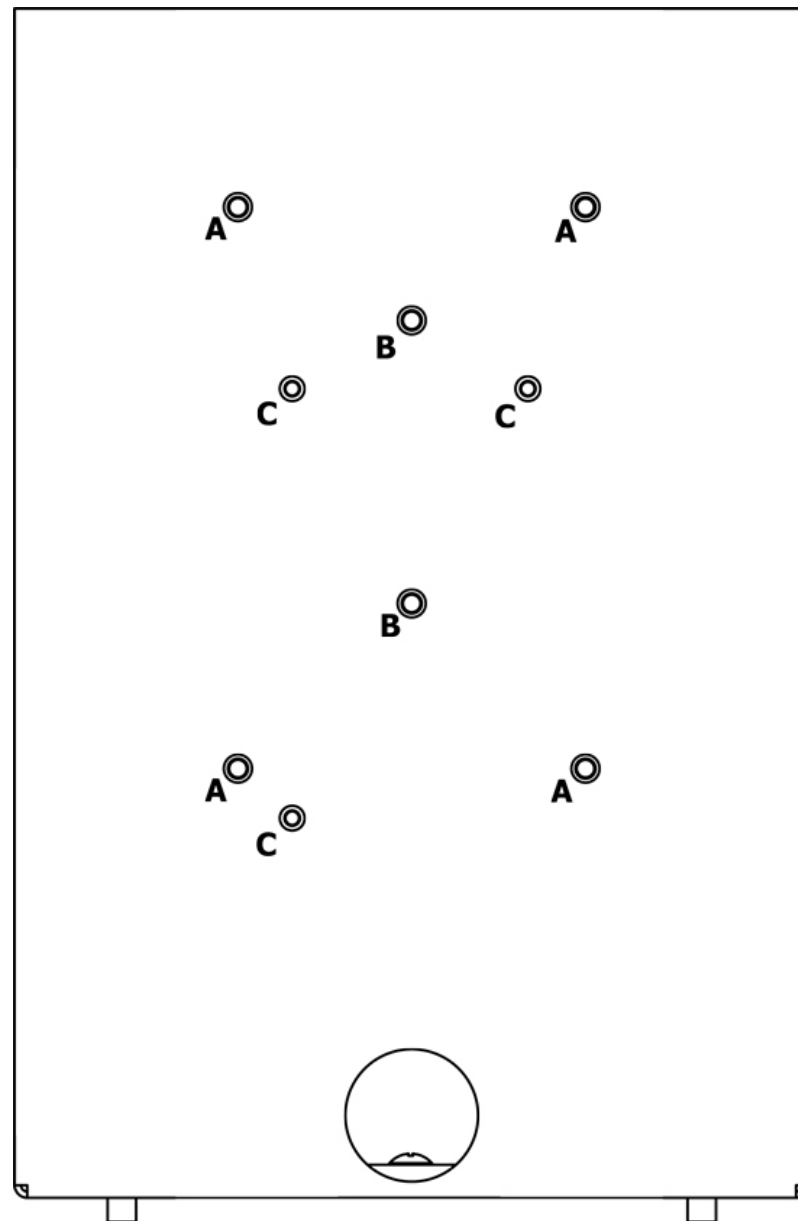

Figure 3
Step 2 – Use the *mounting hole legend* (Figure 3) to determine the mounting hole locations for the type of *access point* chosen. Securely fasten the *access point's mounting bracket* to the mount using either (4) # 8-32 screws (included) or (4) #6-32 screws (included) as defined by the mounting hole legend.